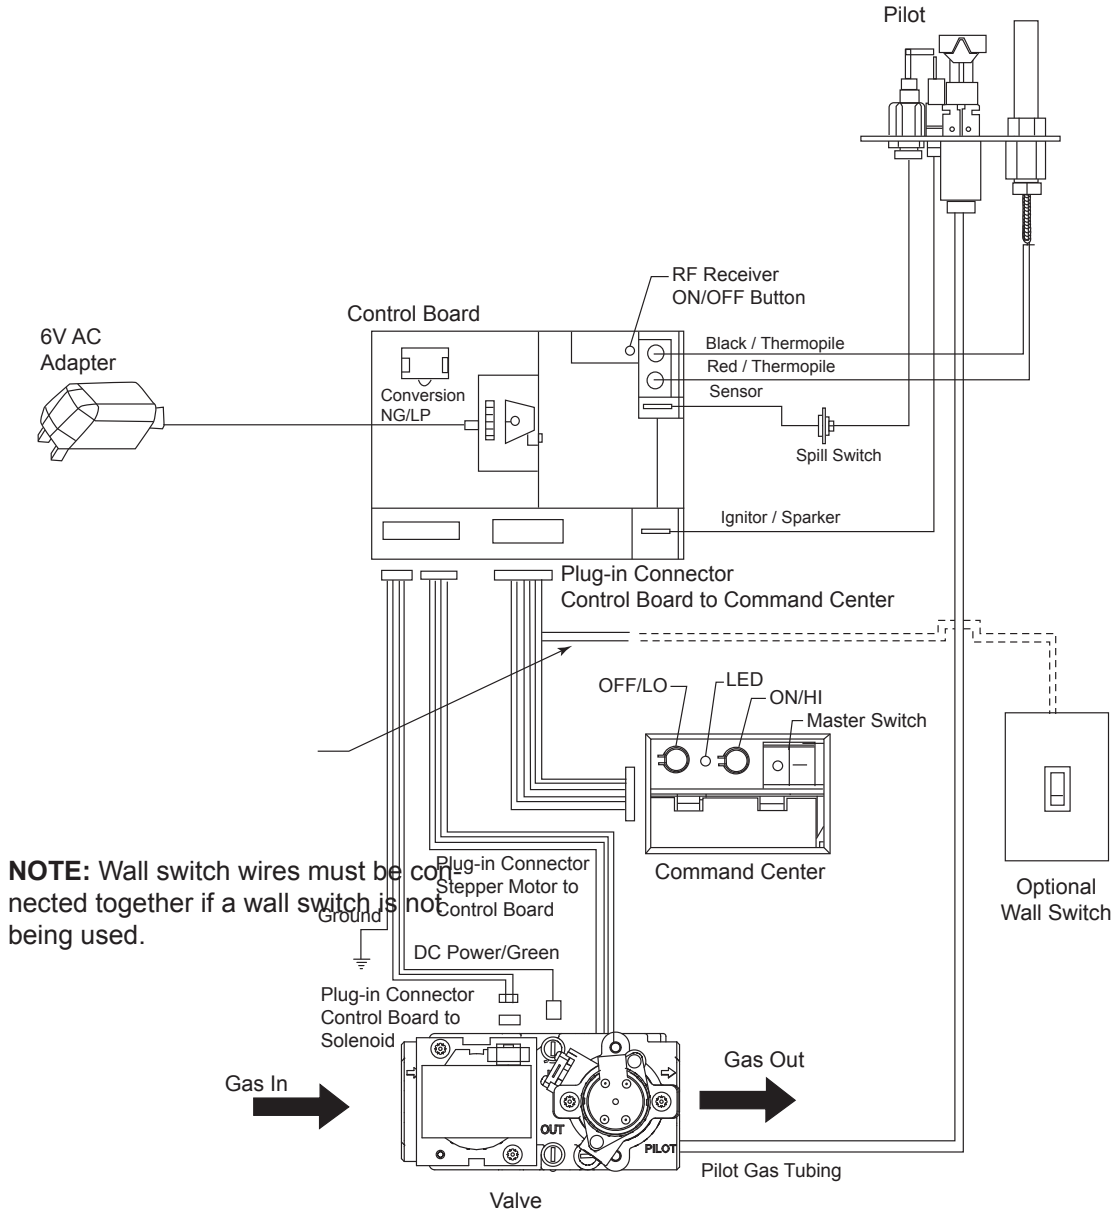

Figure 27 - Signature Command Wiring Diagram
The wall switch wire connection is located off the 2 ft. wire harness from the control box to the command center. *Figure 27*. The connection is labeled “Wall Switch”. Unplug the male and female connectors and connect the two (2) low voltage wires provided. Run wire to desired location on wall. Up to 50 ft. of 18 ga. wire may be used if necessary. Attach wires to wall switch. Mount the wall switch in to junction box and screw on cover.
1. The RF receiver button located on the Control Board must be in the on position before the learn function can begin. Use paper clip to depress button. One beep for RF receiver ON or two beeps for RF receiver OFF will be given as confirmation. Refer to Figure 27 for location.